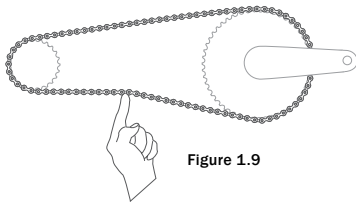

Figure 1.9
- Coaster brake: There should be between 6-12 mm (0.25-0.50") total vertical movement in the middle of the chain (Figure 1.9).